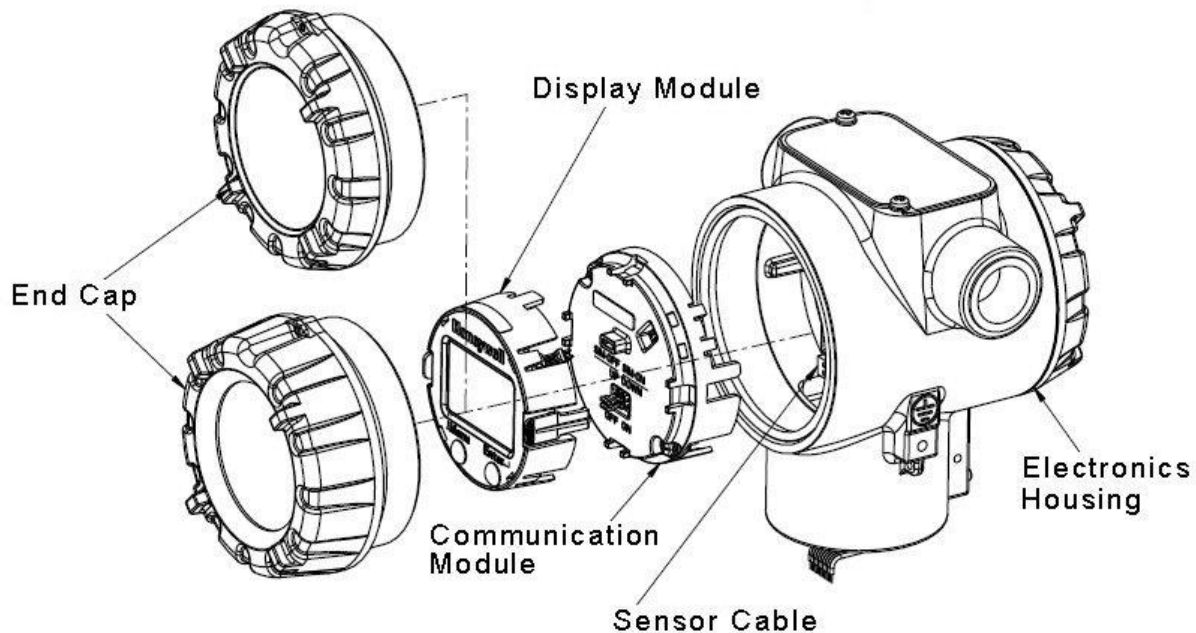

Figure 64 – ST 700 Basic Transmitter - Disassembly for Meter Body Replacement
4. Refer to Figure 64. Loosen the End Cap Lock, and unscrew the End Cap from the electronics side of the transmitter housing.